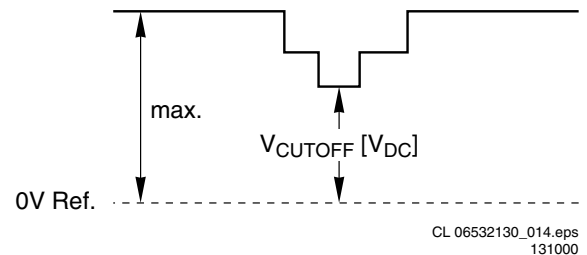

Figure 8-2
6. Measure the cut off pulse during first full line after the frame blanking (see Fig. 8-2). You will see two pulses, one being the cut-off pulse and the other being the white drive pulse. Choose the one with the lowest value, this is the cut-off pulse.